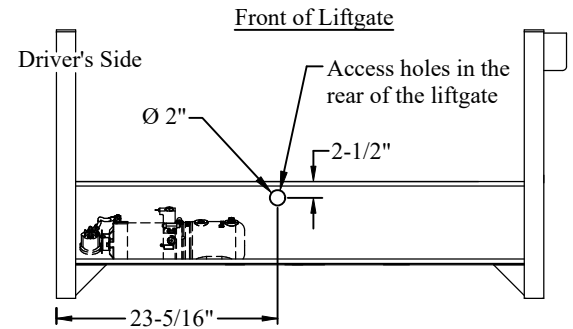

Figure 5: Spare tire access hole location in liftgate.
5. **Drill** a 2" diameter hole, in the back of the liftgate in the location shown, if needed (Figure 5).